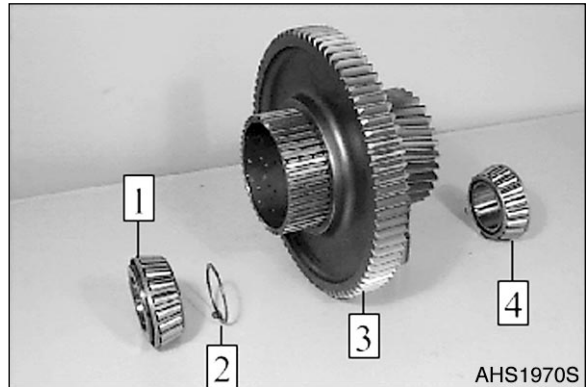

Figure 237
- B. Adjust Axial play – Spur gear bearing 0.05 - 0.15 mm (0.0020 - 0.0059 in) (Figure 237 - Example C).
- C. Figure 237, shows the components of the spur gear bearing.